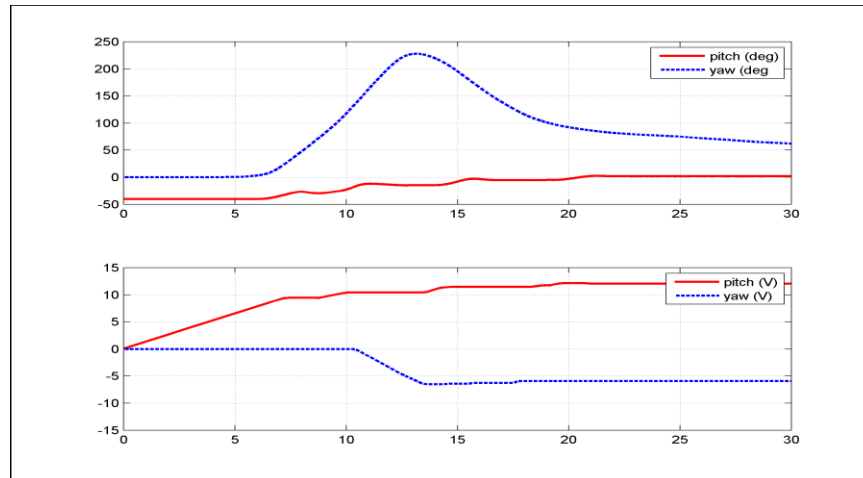

Figure 6: Effect of pitch on yaw
17. As depicted in Figure 6, applying a negative voltage to the yaw motor causes the pitch angle to decrease, i.e. the helicopter nose goes down. Similarly to the effect the pitch motor has on the yaw motion, the voltage applied to the yaw motor generates a torque on the pitch axis